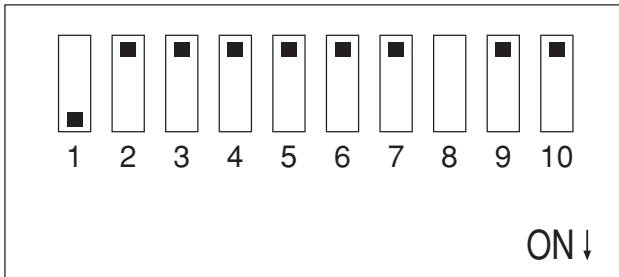

Fig.6 The Status of Dial-up (SW)
The status of dial-up (SW) is shown in Fig.6. If the ID address is 1, communication mode is 10 bits: 1 start bit, 8 data bits, 1 stop bit and the baud rate is 9600bps.